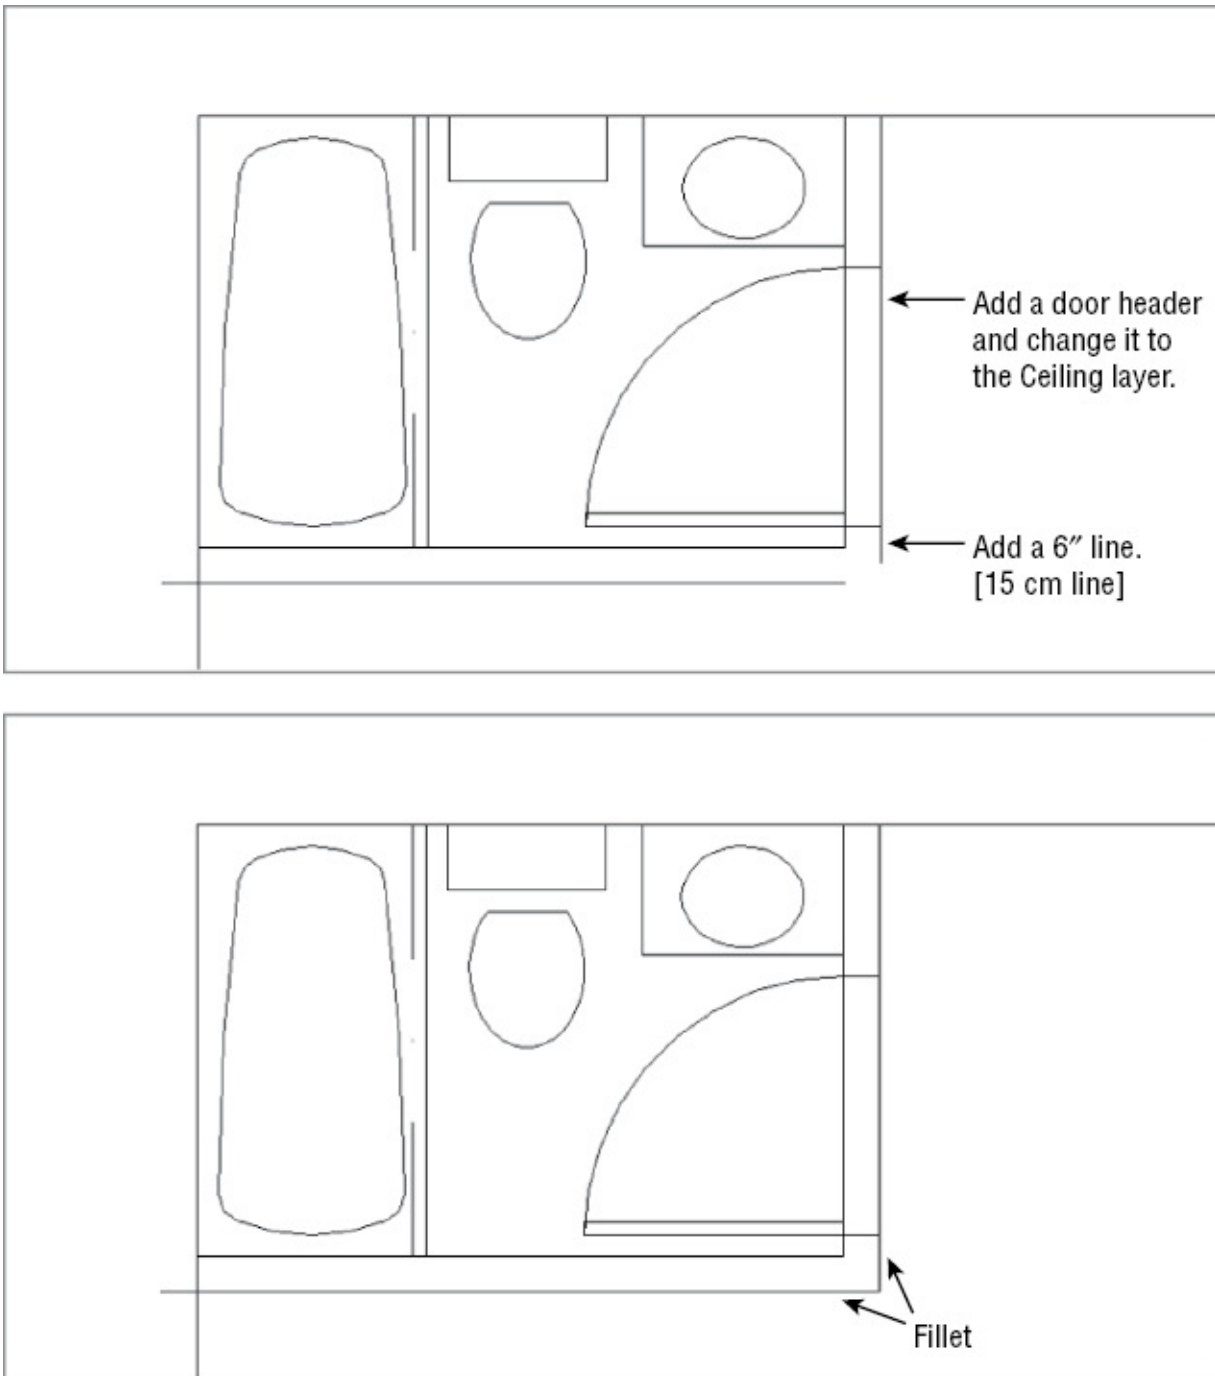

FIGURE 6.21 The corner of the bathroom wall and the filleted wall around the bathroom
10. Draw a line connecting the two doorjambs. Then assign that line to the Ceiling layer. (See the top panel in Figure 6.21.)
1. Draw a line 6'' down from the endpoint of the doorjamb nearest the corner. (See the top panel in Figure 6.21.) Metric users should draw a line 15 cm down.
3. Fillet the two lines by picking the vertical and horizontal lines, as indicated in the bottom panel in Figure 6.21. Notice that these points lie on the portion of the line you want to keep. Your drawing will look like the bottom panel in Figure 6.21.